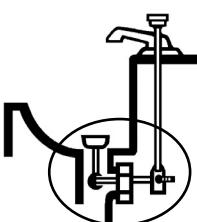

Figure 3
- Pop-up Drain: Remove lift rod and drain plug (Figure 3).